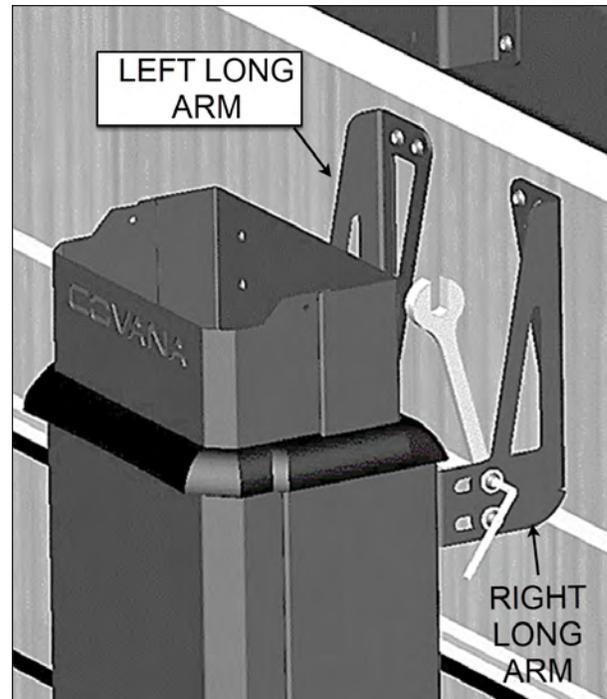

FIGURE 101: LONG ARM INSTALLATION
23. Install the long arms mounted on the spa between the sleeve mount bracket see Figure 101.
24. Using 1/4-20 x 3/4" button head socket cap screws, the 1/4" washers, the 1/4" lock washers and 1/4-20 hex nuts, screw the long arms to the sleeve bracket using the provided 5/32" L hex key see Figure 101.